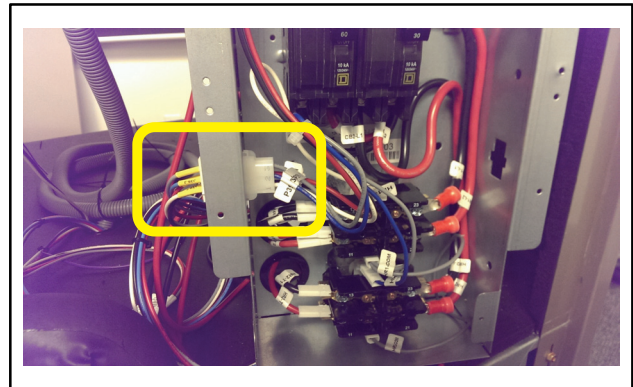

Fig. 17 — Connect J39 Plug Into P39 Connector
5. Connect J39 plug into the connector P39 on the side of the electric heat control box. See Fig. 17.